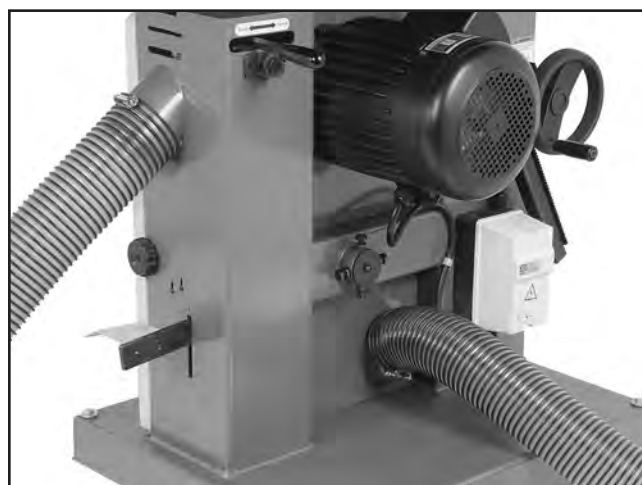

Figure 17. Dust hoses attached to dust port.
1. Fit a 4" dust hose over each dust port, as shown in **Figure 17**, and secure in place with a hose clamp.